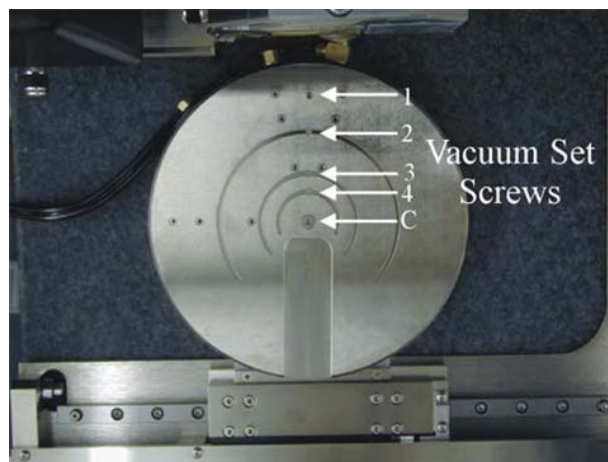

Figure 9. D3100 wafer chuck sample stage.
- a) Load sample on position 1 (Figure 9). Note that the stage can be manually rotated for ease of loading the sample.